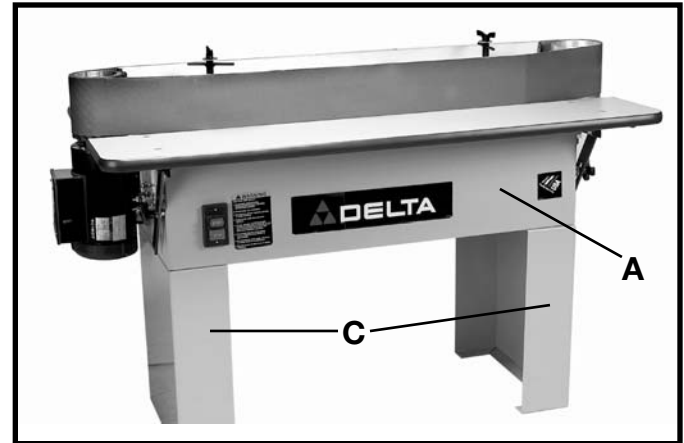

Fig. 4
2. Fig. 4, illustrates both legs (C) assembled to the base of the sander (A).